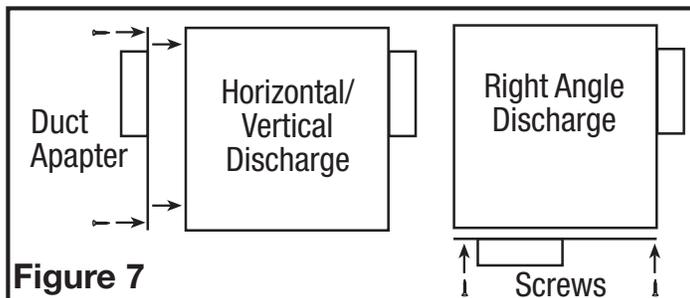

Figure 7
2. Determine if you will require the unit to exhaust vertically/horizontally or at a right angle and install the optional IA418RE duct adapter panel (not included) accordingly, using the included screws (Figure 7).